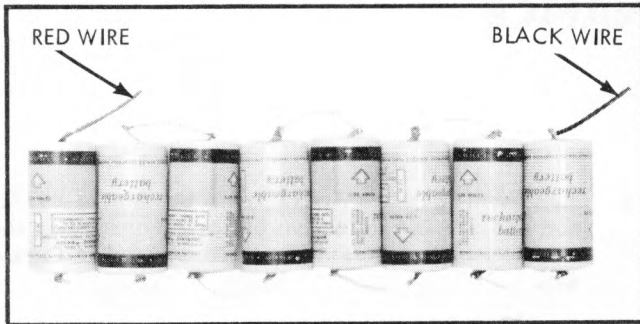

Figure 4-2. BATTERY POLARITY CONNECTIONS
d. Remove the battery pack from the Model 845AB and replace the defective batteries observing the connections and polarities as illustrated in Figure 4-2.